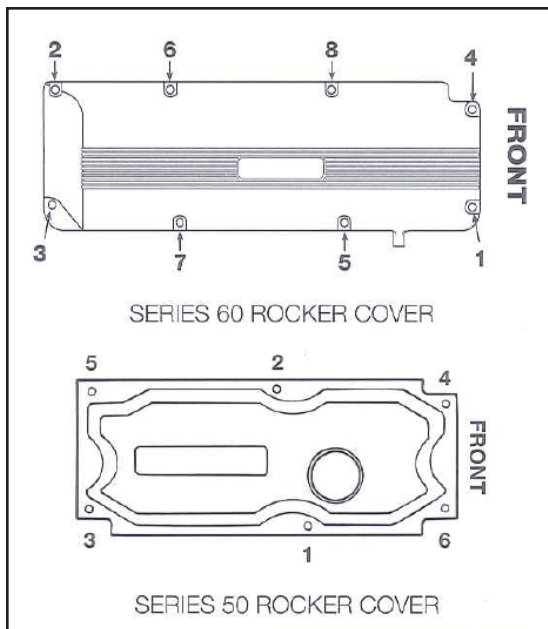

Fig. 1
3. Tighten the bolts to 14 Nm (10 lb-ft) in the sequence shown in Fig. 1.